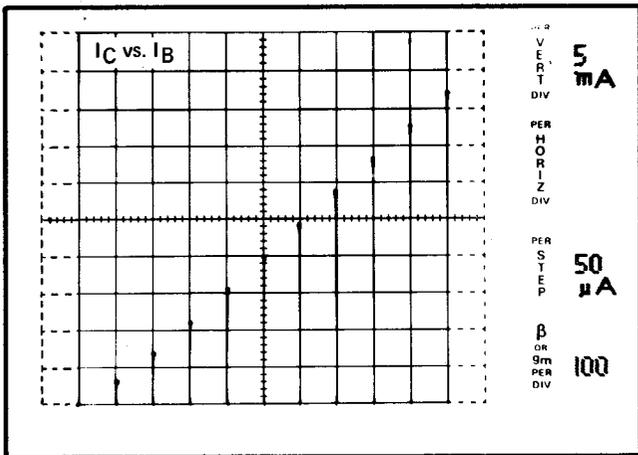

Fig. 2-15.  $I_C$  vs.  $I_B$ ,  $I_B$  @  $50 \mu A$  per division.
56. Set the VERTICAL switch to 5 mA and the HORIZONTAL switch to STEP GEN. Note the display of collector current vs. base-current, one step per horizontal division (see Fig. 2-15).